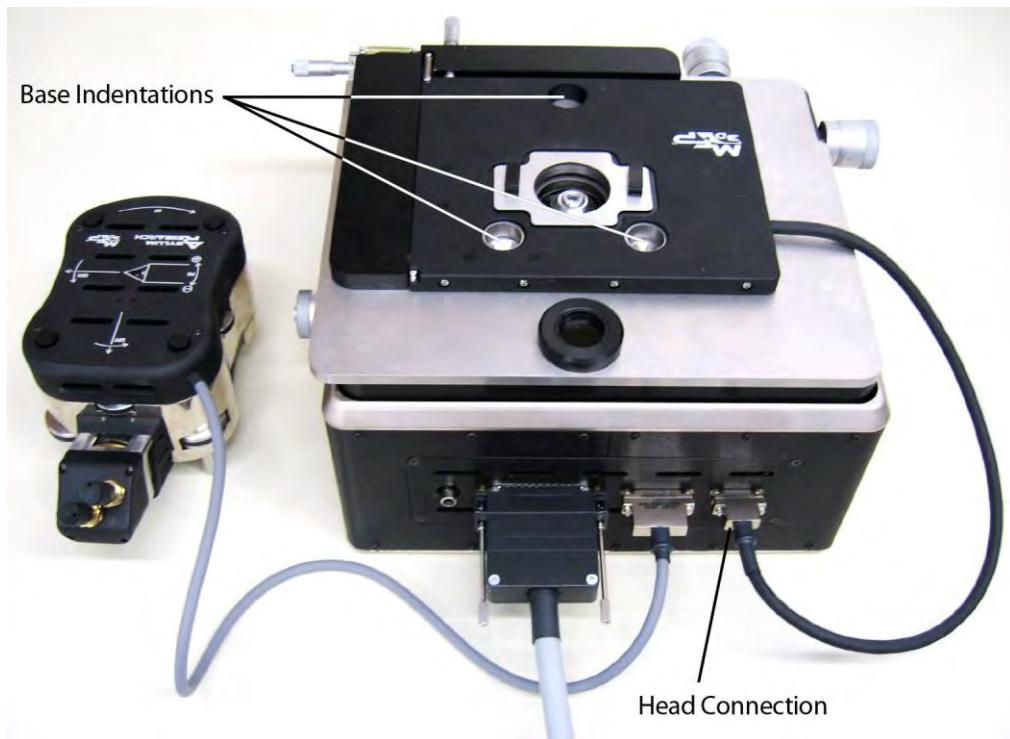

Figure 4.11 Head Installation and Connections
- 1.** Connect the head cable to the scanner (See Figure 4.11).
- 2.** Position the legs of the head over the corresponding indentations on the base (See Figure 4.11) and place the head.
3. Connect the cable from the head to the base (See Figure 4.11).